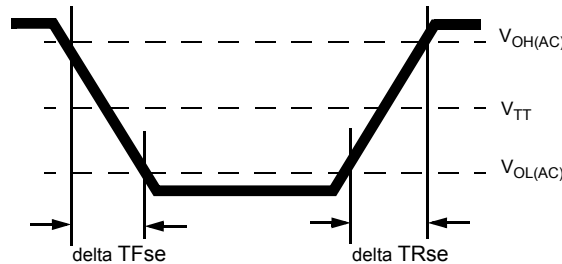

Figure 6. Single-ended Output Slew Rate Definition
With the reference load for timing measurements, output slew rate for falling and rising edges is defined and measured between V_{OL}(AC) and V_{OH}(AC) for single ended signals as shown in Table 12 and Figure 6.